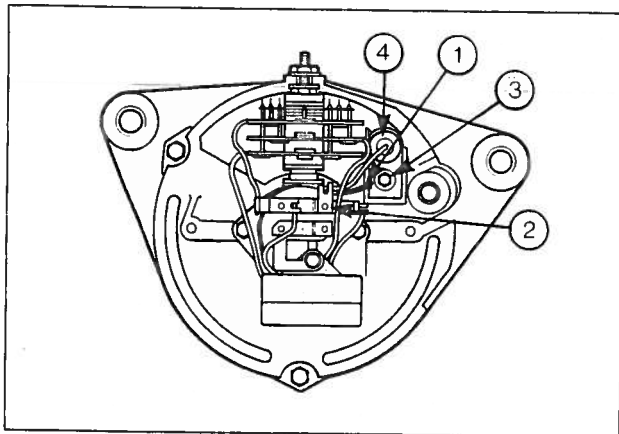

Fig. 36 Removing surge diode
3. Disconnect the lead (1), then remove screw (2) securing the surge diode lead. Remove screw (3) and detach surge diode (4) – see Fig. 36.